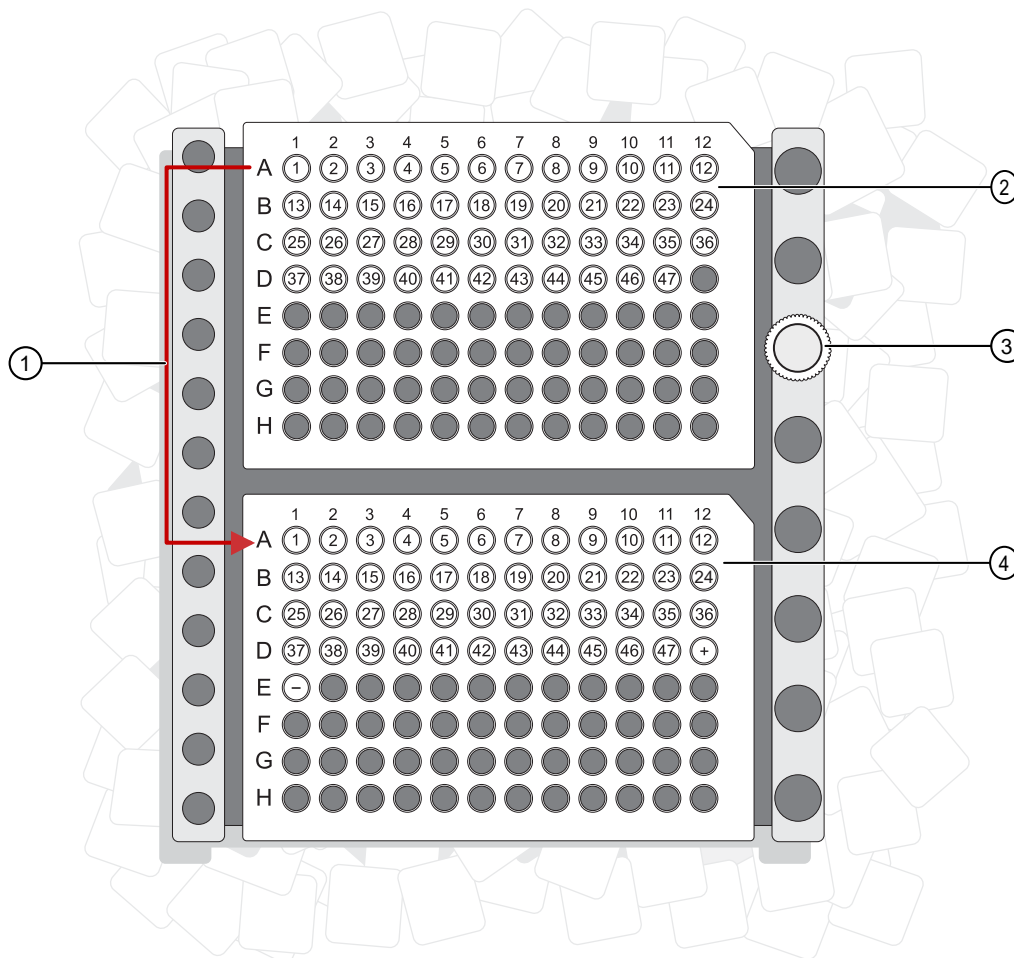

Figure 11 Setup for aliquoting diluted gDNA and controls to a 96-well plate labeled for digestion and ligation.
- Transfer a 5 μ L aliquot of the samples to designated wells of the digest/ligate plate. (Figure 11.)